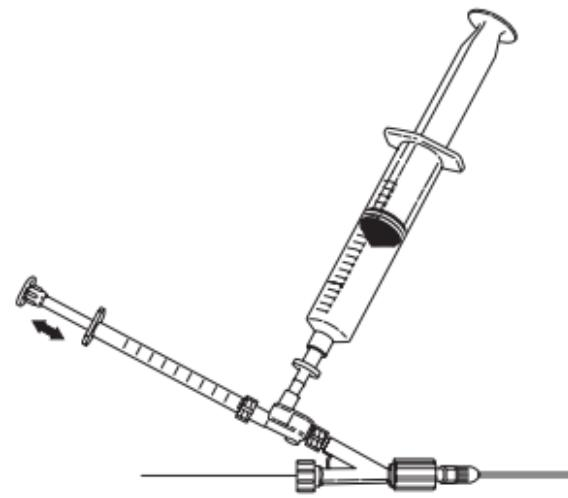

Fig.8
- To infuse solution, draw desired dose into 1 mL syringe and inject. Reload 1 mL syringe and repeat infusion technique as necessary. (**Fig. 8**)